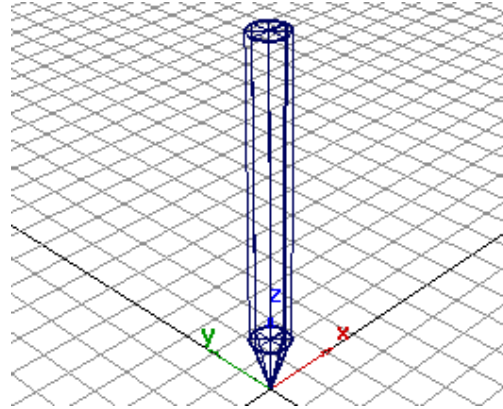

Figure 2-118 Model after rotating the tip
4. Enter **180, 0, 0** in the promptline and press ENTER; the tip is rotated about the X-axis, as shown in Figure 2-118.